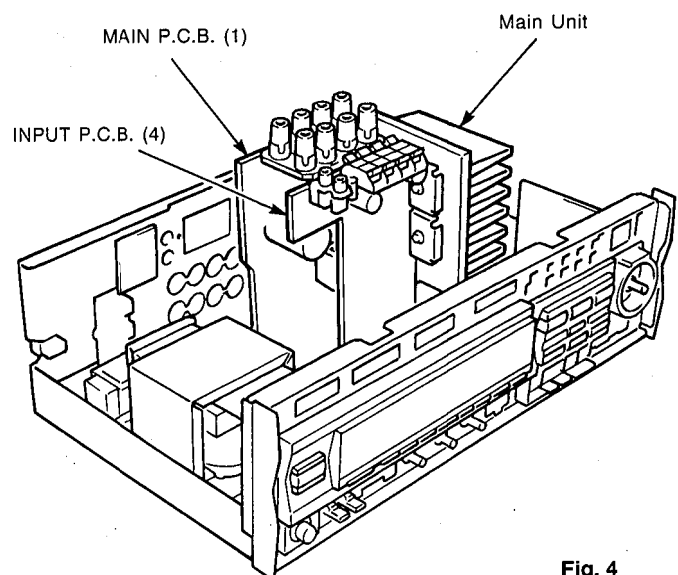

Fig. 4
- Place the Main Unit on its side as shown in Fig. 4.